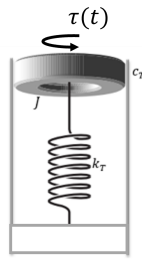

Fig. 6: Rotational mass-spring-damper system
**Question 3.** Consider the system  $G_R : \tau \mapsto \theta$  shown in Fig. 6. The mass, whose moment of inertia,  $J$ , is attached to a torsion spring, whose torsion coefficient is  $k_T$ . An external torque  $\tau$  acts on the mass and friction between the mass and the cylinder is assumed to generate a viscous friction torque  $\tau_c = -c_T \dot{\theta}$ .